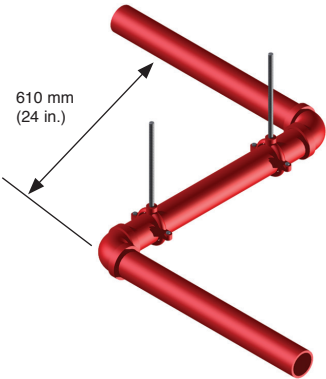

FIGURE 6-20
- Hangers must be placed between elbows that are more than 610 mm (24 in.) apart. See Figure 6-20.